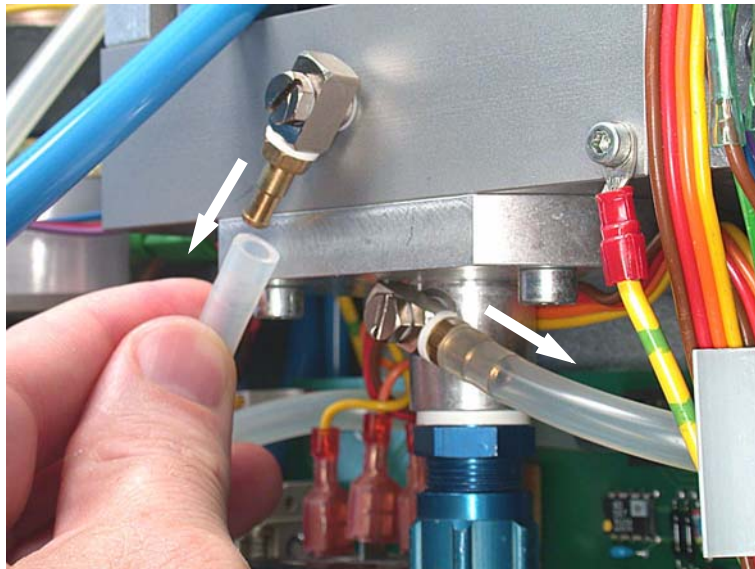

Figure 11-159. Removing the connections to the sensor board
6. Remove from the block, the two clear tubes that connect to the sensor board. (Figure 11-159.)